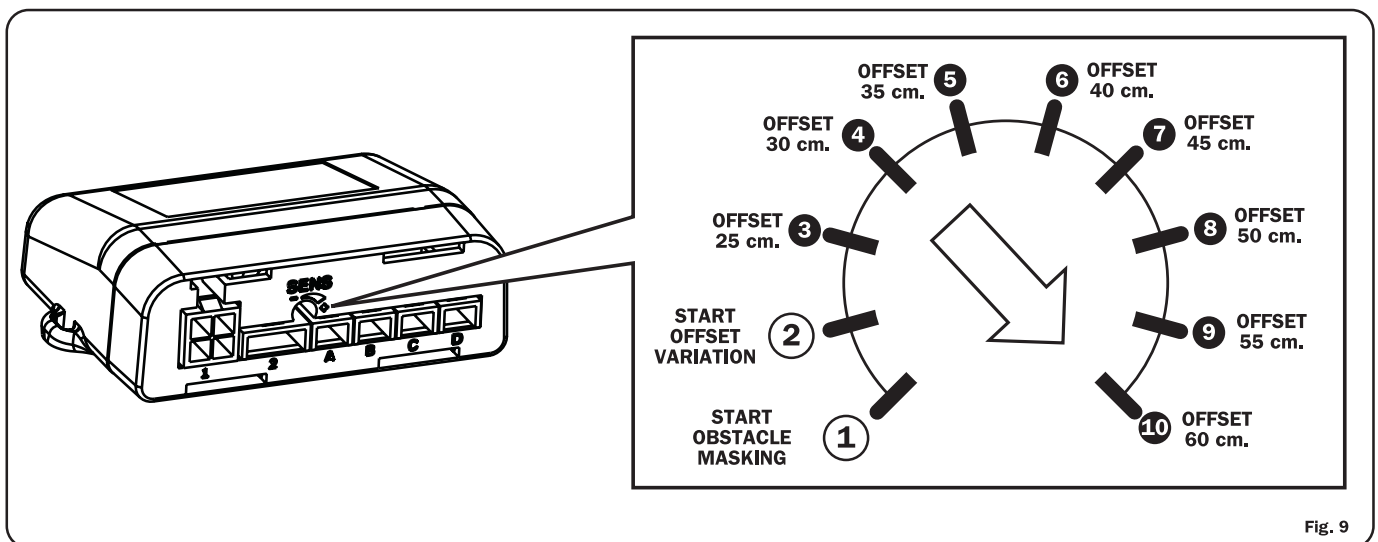

Fig. 9
The product is programmed with a 30 cm OFFSET which can be set from a minimum of 25 cm to a maximum of 60 cm; NOTE: before to start the procedure, choose the offset value to be set; See in Fig.9 the corresponding trimmer position (ex. 45cm= Pos.7):
- 1 - Unplug the main connector (1) from the EasyPark control unit, turn on the ignition and engage the reverse gear.
- 2 - Set the trimmer on position 2 (see figure 9).
- 2 - Set the control unit for masking, by setting the trimmer on the step 1(see fig. 9).